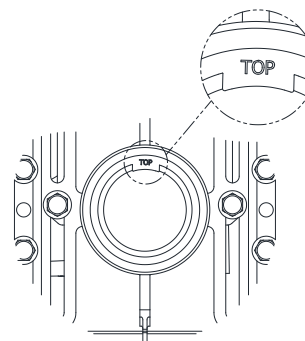

Fig. 15e
- e. Prep the coupling end and flange, following PVC Cement manufacturer's instructions. Glue flange to pipe with "TOP" properly aligned. See Fig. 15e